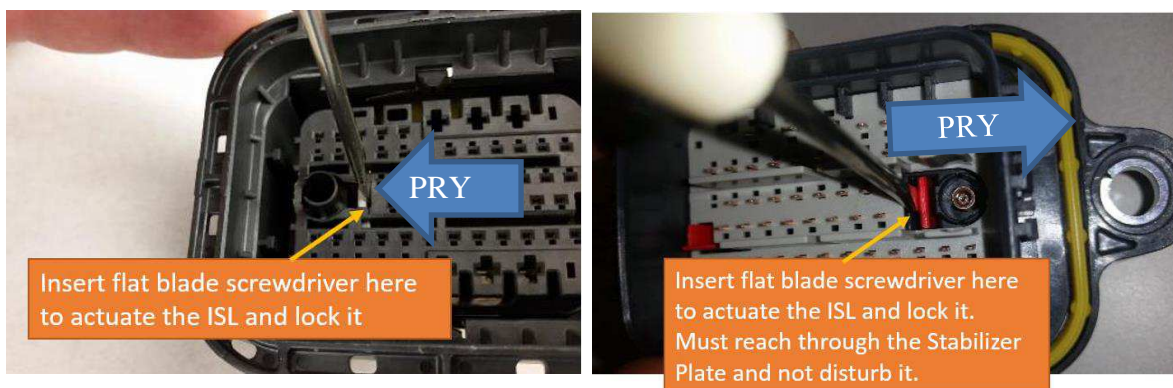

Figure 4
- After all terminals have been inserted, insert a small screwdriver or other suitable device as shown in Figure 4, to engage ISLs to the closed position by sliding towards circuit #21 / FAKRA. Tool should be inserted as far down the ISL feature as possible, then simply pry the ISL over.
The force to reach pre-stage 'click' should be no more than 40N, if significant resistance is encountered, one or more ISLs may not be correctly located. Ensure that the ISLs are in the closed position (as described in Step 7 / Figure 4 of Paragraph 3.1).